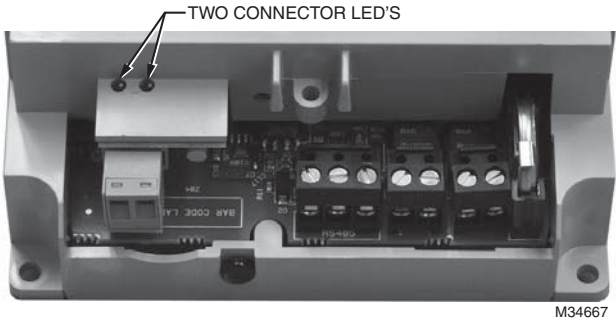

Fig. 24. Two Communication LED's
2. Remove the 2 position screw terminal plug from the Din-Mon™ meter. See Fig 24.